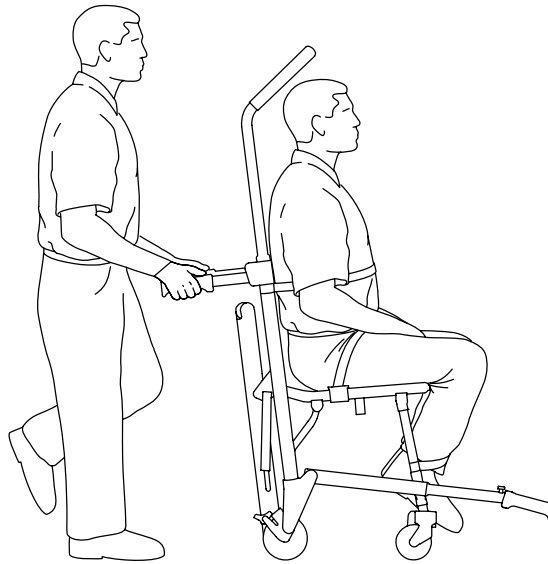

Figure 5 – Transporting the occupant
1. Push and guide the chair with the head end handles, the backrest tube, or the upper control handle (Figure 5).